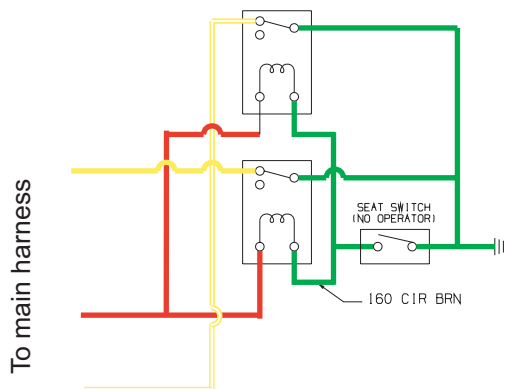

Figure 7.11
- The RMC and the safety circuits receive a ground signal through the NC contacts of the seat switch relays. See Figure 7.11.